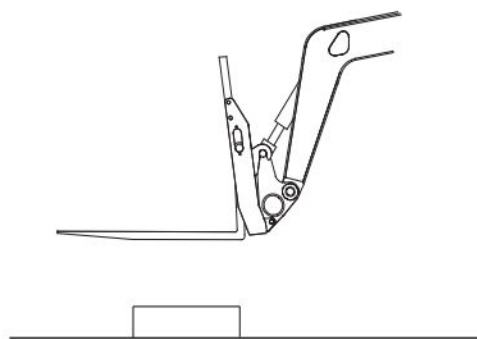

Figure 2-17-3
3. Extend and lower boom enough for attachment to rest on the elevated, level surface and lock bar latch located at bottom of subcarriage is fully accessible (see Figure 2-17-3).
4. Engage the attachment by raising the boom and tilting subcarriage backward, so that attachment is just above the ground (see Figure 2-17-3).